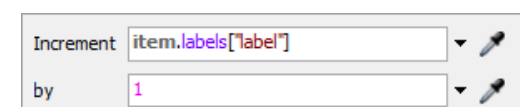

Fig. 12. Increment Value option
6. **Increment Value** – allows you to change the value of the expression given in the *Increment field* by the value given in the *by field* (Fig. 12).